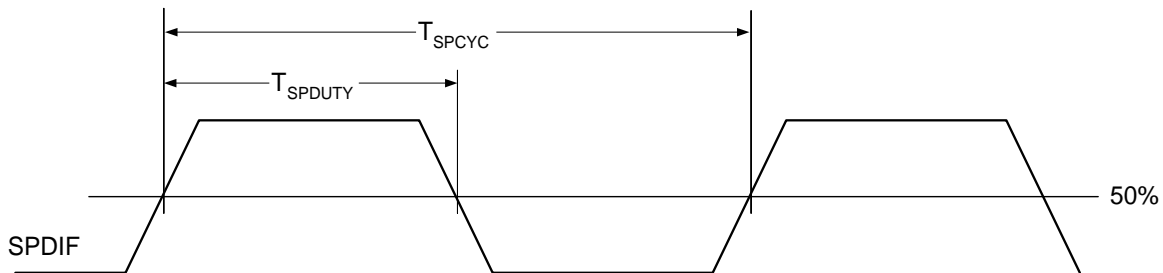

Figure 4.3. S/PDIF Input Timing
1. Proportional to unit time (UI), according to sample rate. Refer to the S/PDIF Specification.
2. Refer to Figure 4.3 below.